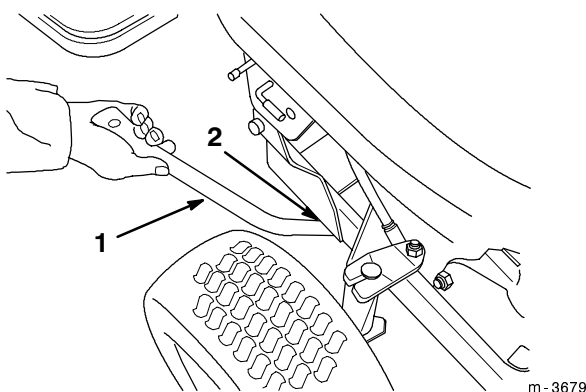

Figure 12
- Slide the round end of the crank support under the notch in the snowthrower frame (Fig. 12).